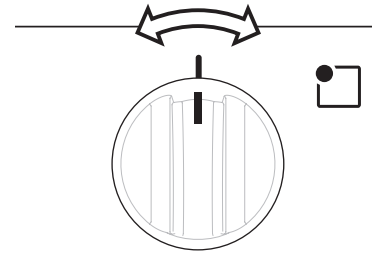

Fig. 1
2. Push in and turn the surface control knob (See Fig. 1), in either direction to the desired setting. Start most surface cooking on a higher setting and then turn to a lower setting to finish. The surface control knobs do not have to be set exactly on a particular spot. Use the graphics provided as a guide and adjust the control knob as needed (See Fig. 2). Each surface element provides a constant amount of heat at each setting. For more information see the **Suggested surface element settings table** (See Fig. 3).